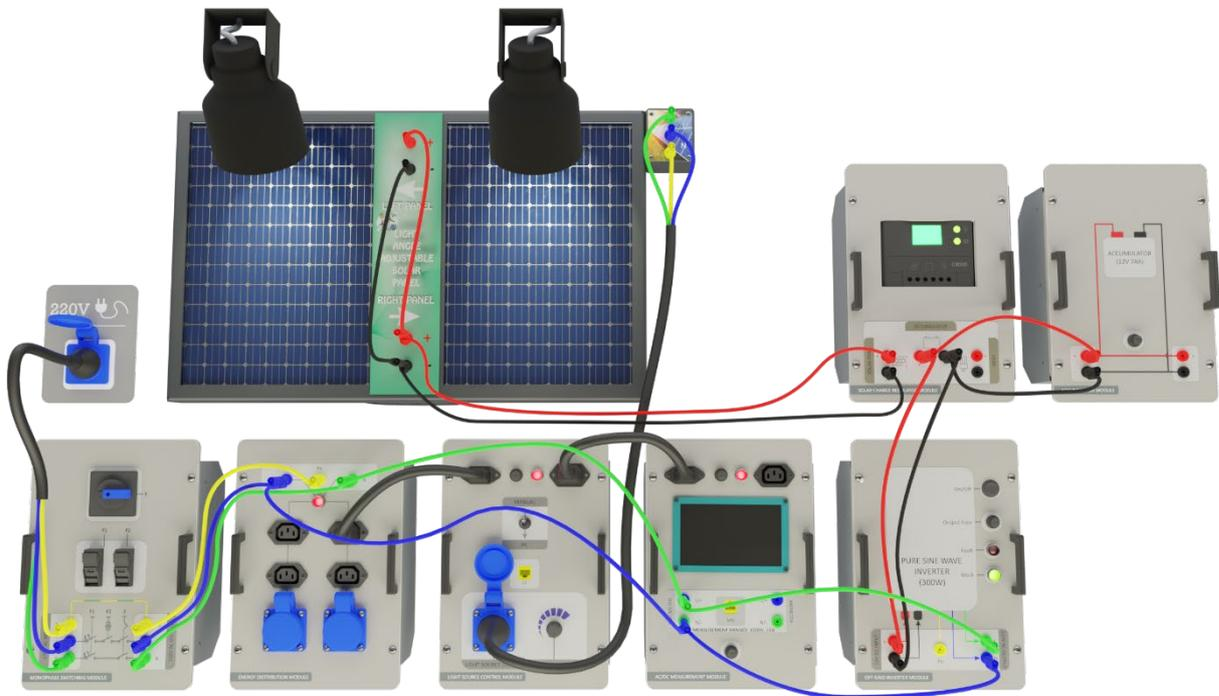

Figure-67. Installation Image of Examination of On-Grid Invertor
- Set up the connection as specified in Figure-67. Maintain a constant level of light in the laboratory by creating an average lighting scenario. Be aware that any changes in the positions of lamps or curtains will impact the experimental results.